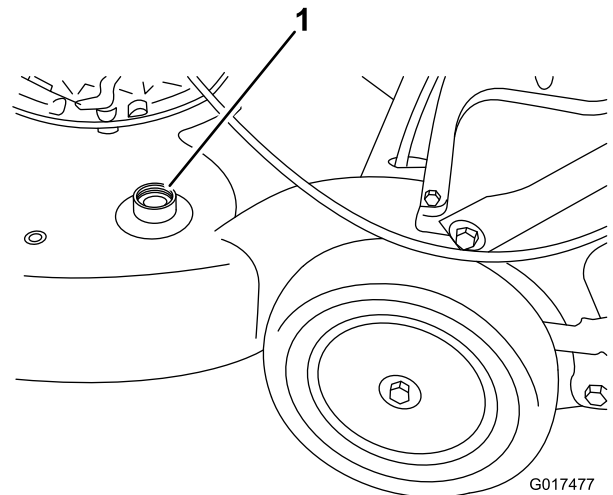

Figure 44
3. Attach a garden hose that is connected to a water supply to the washout port on the machine (Figure 44).